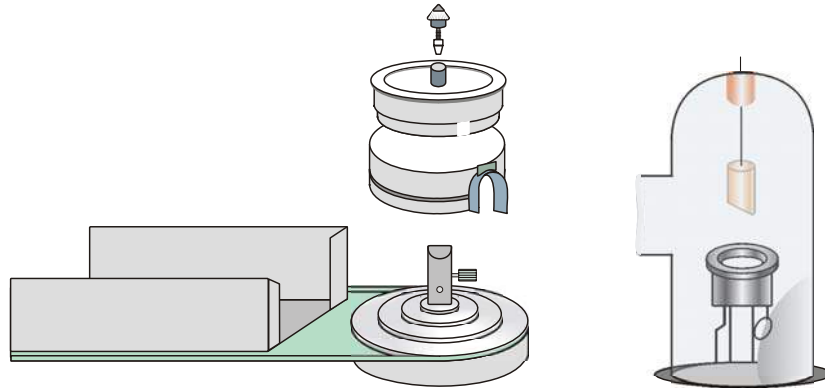

Fig. 7 Insertion and removal of Debye-Scherrer camera
The Debye-Scherrer camera is made up of three parts: housing, cover and a clamp with bevel gear (see Fig. 7). The motor drive can be used, for example, to take rotating crystal images.
- Try out the positioning of the Debye-Scherrer camera housing between the leaded glass dome and the sample holder (see Fig. 7). If there is no room for play in the camera, it can be adjusted using the screw in the bottom of the camera.